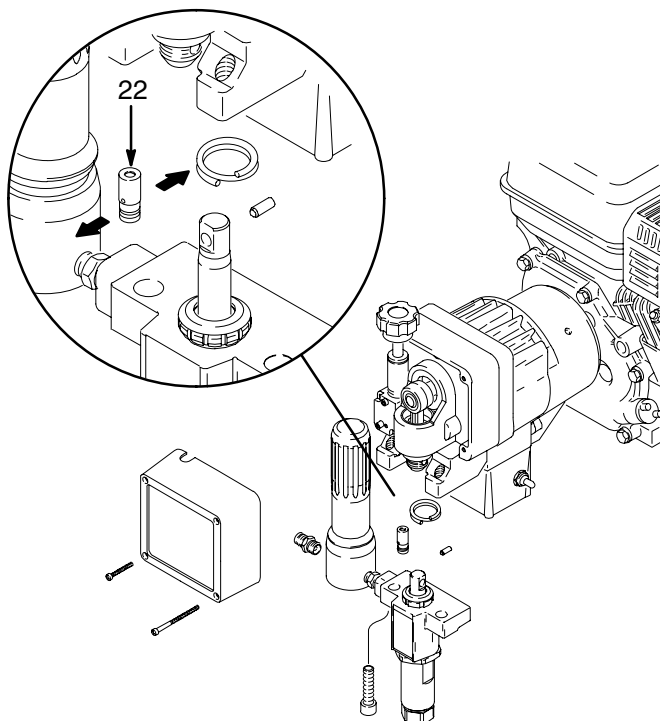

Fig. 12
**NOTE:** See Fig. 12 for this procedure.
2. Use a pull–twist motion to remove the transducer (22) from the pump manifold.
6. Align the holes in the transducer as shown by the arrows in Fig. 12.